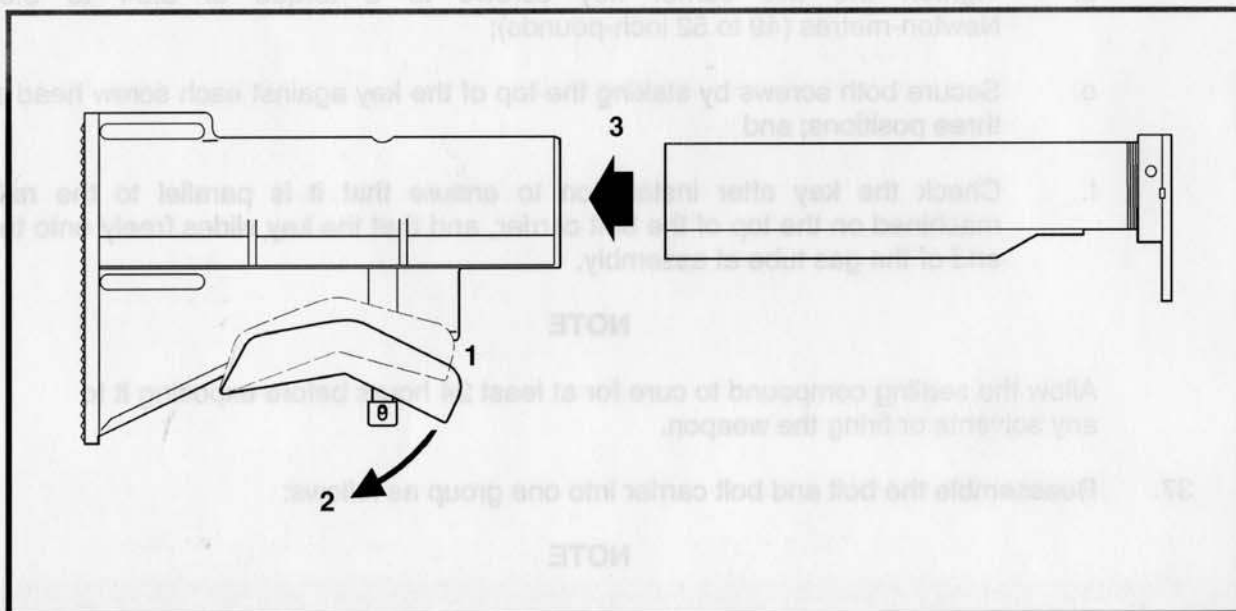

Figure 3-2-38 Removing the Sliding Buttstock Assembly
39. To remove the sliding buttstock, refer to Figure 3-2-38, and proceed as follows:
- a. Depress the butt release lever (1) and slide the butt fully rearward;
- b. Pull down fully on the front end of the release lever (2); and
- c. Remove the sliding buttstock rearward from the receiver extension (3).